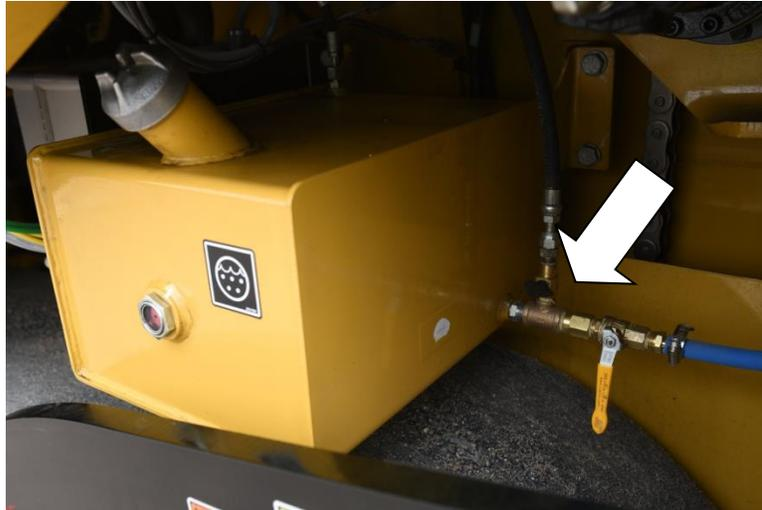

Figure 42: Clean out tank manual ball valve
2. Open the manual ball valve at the clean out tank (see Figure 42).